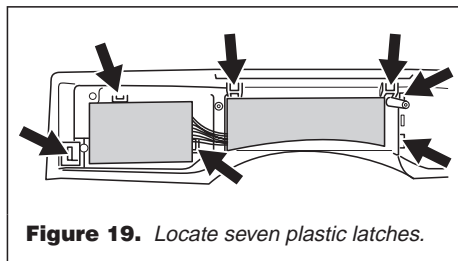

Figure 19. Locate seven plastic latches.
3. The console electronics and housing assembly is held to the decorative piece by seven plastic latches. See figure 19.